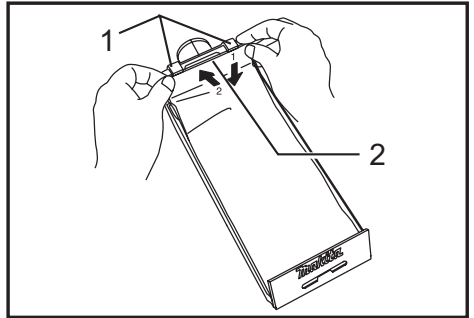

Fig.7
► Fig.7: 1. Claws 2. Upper part